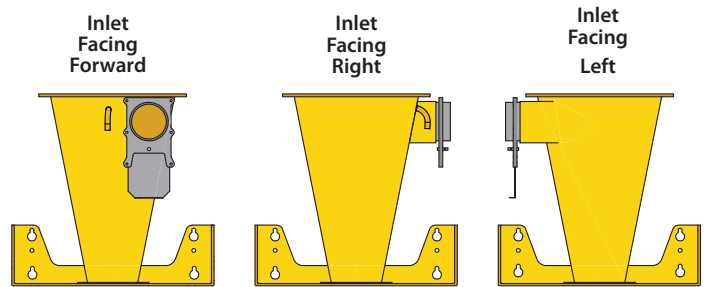

FIG. 11
- 11** The Cyclone (E) can be rotated so that the inlet is facing parallel or perpendicular to the wall. Decide how you want your system oriented [FIG. 11].